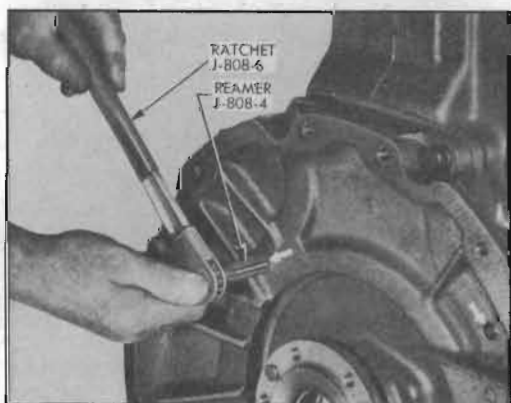

Figure 2-48—Reaming Dowel Pin Holes
6. Using Special Reamer J 2548-3 and Ratchet Wrench J 808-6 (shown in fig. 2-48), ream the dowel holes and install two oversize dowel pins J 808-5.
12. Remove bell housing and ream the two dowel pin holes through flywheel housing and crankcase flange, using $1\frac{7}{32}$ " Reamer J 2548-3 and Ratchet J-808-6. See figure 2-48. Install oversize dowel pins J-808-5.
3. Remove crankshaft rear bearing cap to provide reamer clearance and turn crankshaft so that a dowel pin hole can be reamed. Ream both dowel pin holes through flywheel and crankshaft flange, using Reamer J 2548-3 (shown in fig. 2-48).